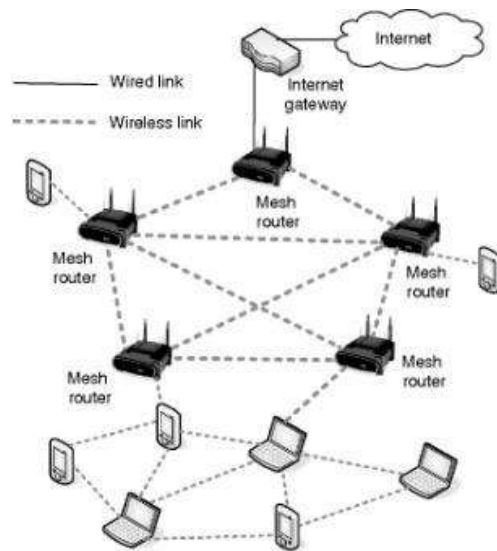

Figure 1.4 Wireless Mesh Networks
- Wireless mesh networks are adhoc wireless network that are formed to provide an alternate communication infrastructure for mobile or fixed nodes/users, without the spectrum reuse constraint & requirement of network planning of cellular network.(Figure 1.4)